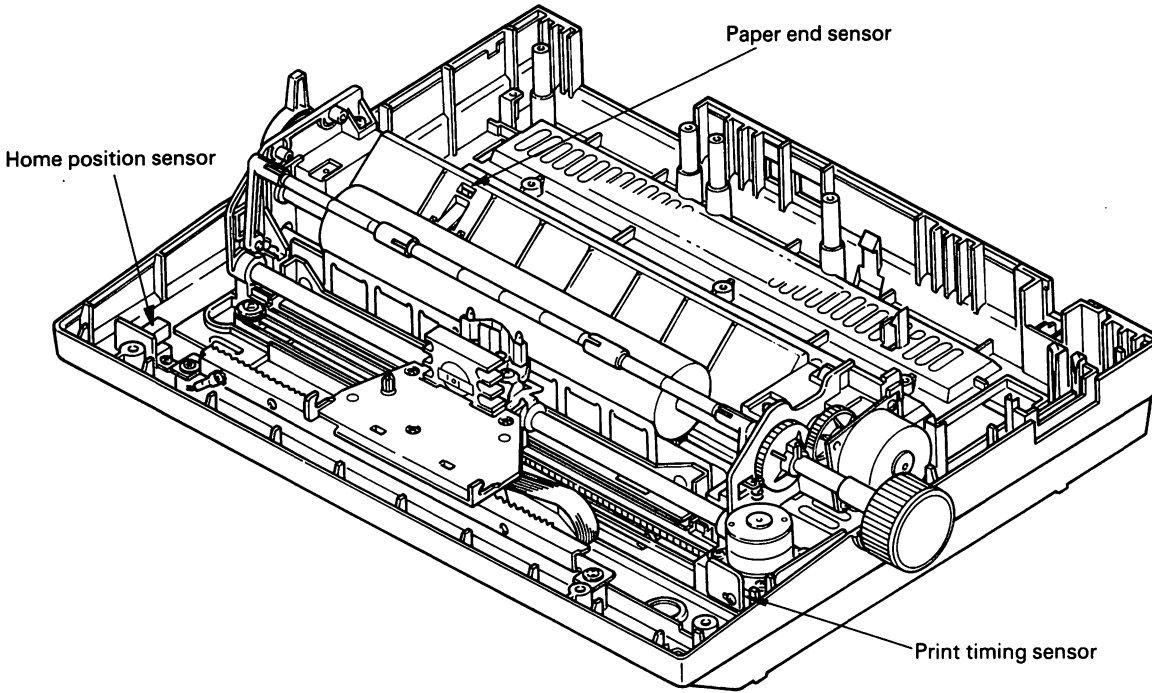

Fig. 2-29. Printer Mechanism
The printer mechanism (Fig. 2-29) comprises the HOME POSITION (HP), PTS, and PAPER END (PE) sensors, the carriage components, the platen assembly, the printhead, and the ribbon drive mechanism.